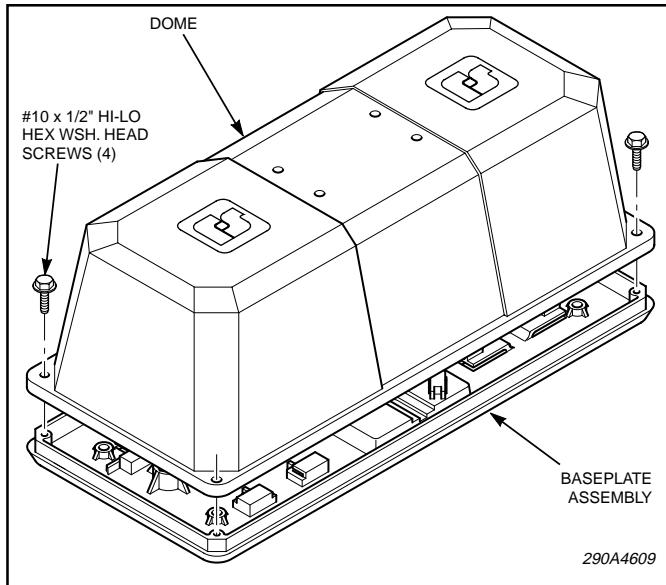

Figure 1.
1. Remove and retain the four screws (one at each corner), which secure the dome to the base and remove the dome (see figure 1).